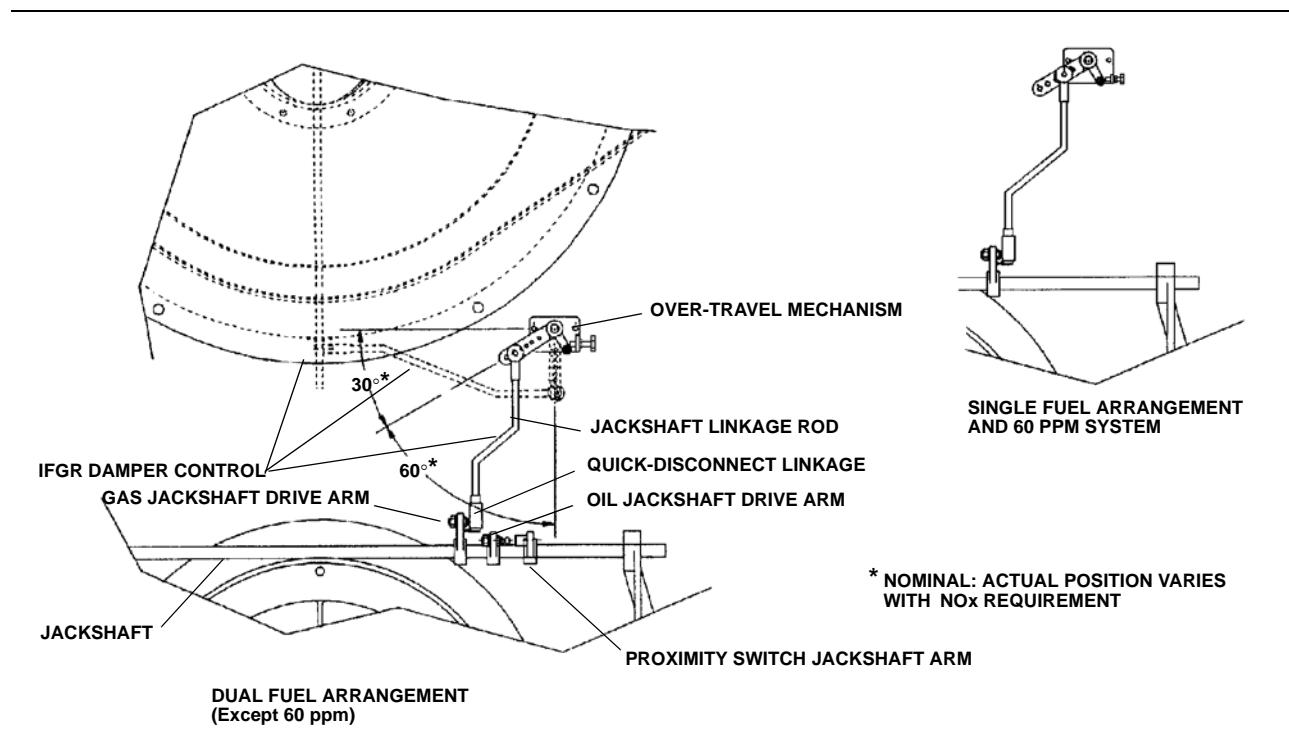

Figure 1-7 IFGR Damper Linkage
- 2. IFGR Damper Linkage (Figure 1-7). The IFGR damper is positioned by the control linkage. The linkage could consist of a single arm, or it could consist of several arms driven from the jackshaft to provide modulating control (see Figure 1-16).